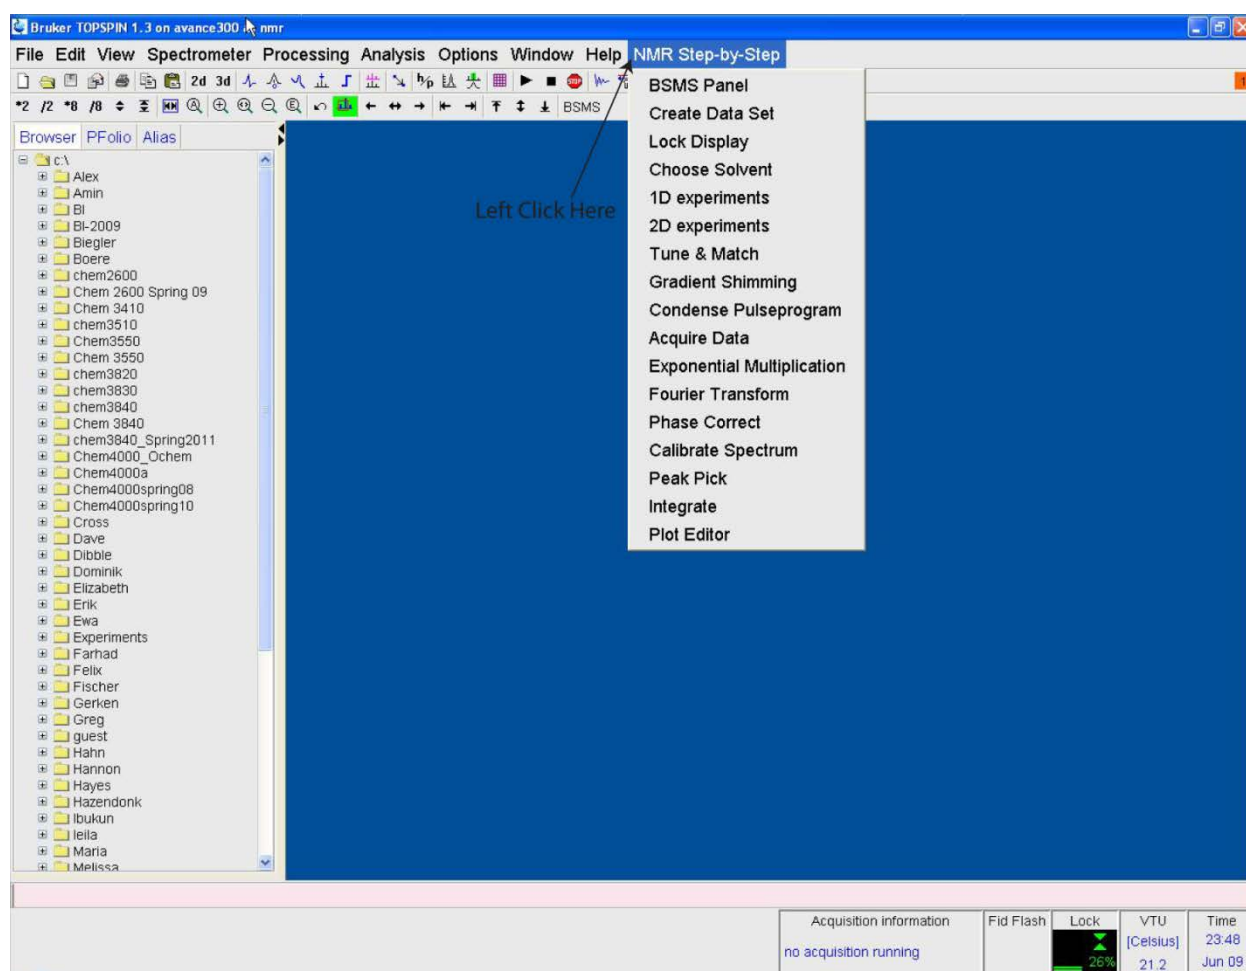
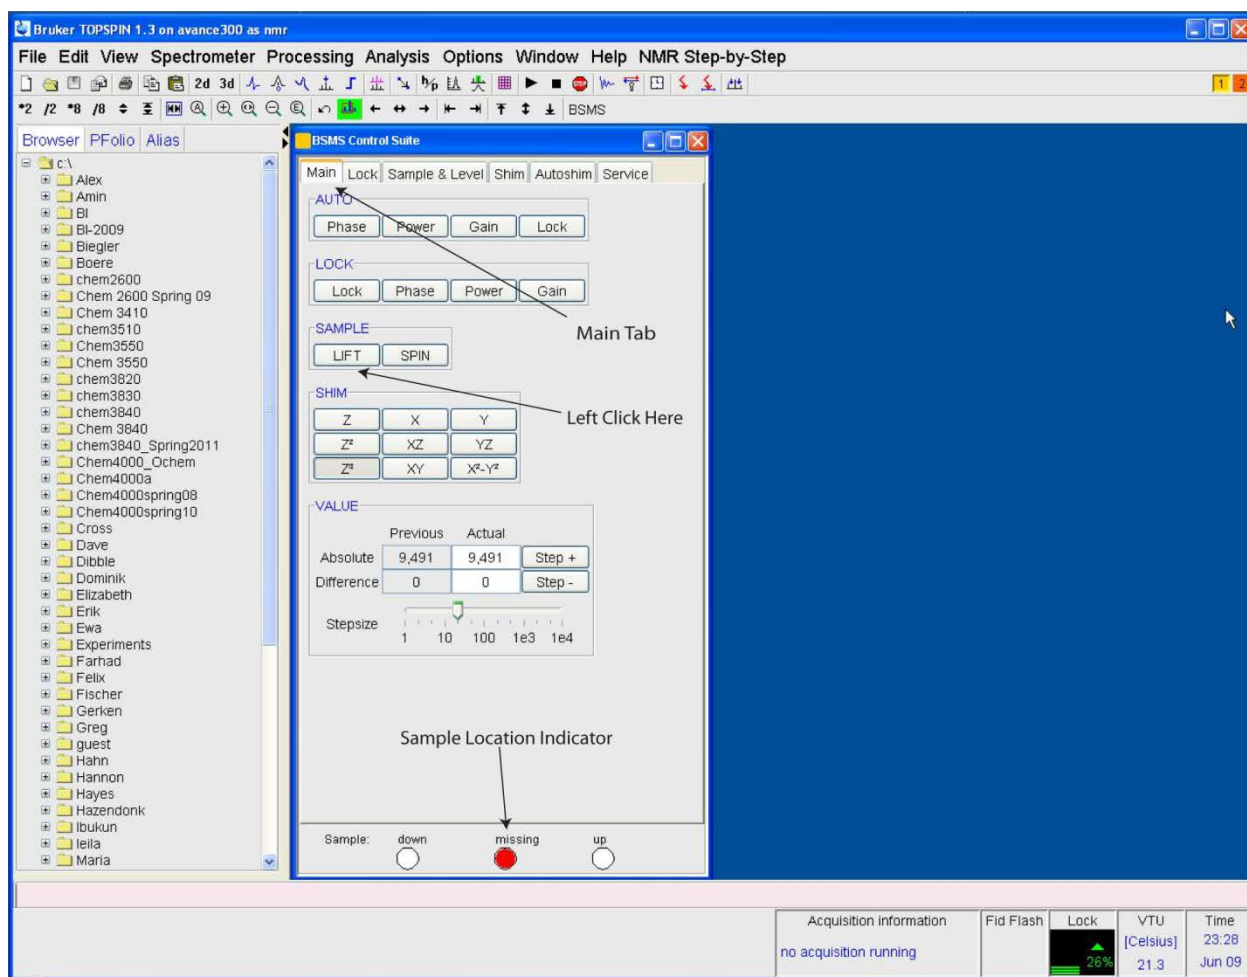

Figure 5 NMR step-by-step menu.
Figure 6 Main tab of the BSMS interface.
(6) You should now load your NMR sample into the magnet. This process is explained in the following steps:
- (b) First left click on the “BSMS Panel” option of the NMR step by step menu (Figure 5). Next left click on the lift button of the main tab of the BSMS interface (shown below in figure 6). This will cause air to flow out of the sample port (top of the stack) and the sample location indicator at the bottom of the BSMS should indicate that the sample is up.